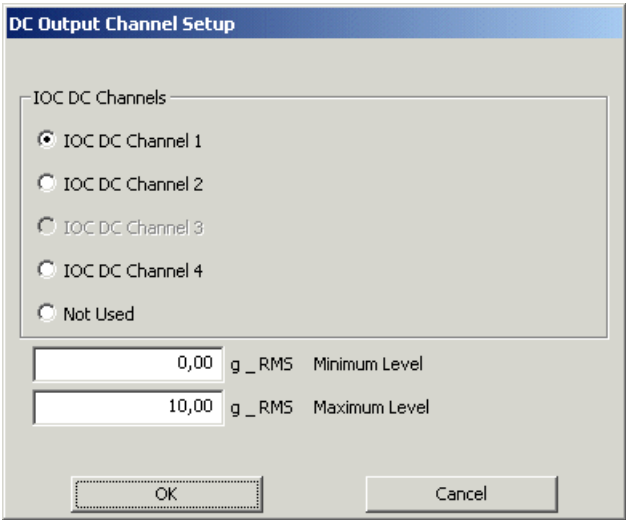

Figure 10-7: DC Output Channel Setup window
- 2- Choose a signal from the list. The DC Output Channel Setup window appears (Figure 10-7).
In the example shown in Figure 10-7, 0 to 100 mm corresponds to 0 to 10 V or to 4 to 20 mA, depending on the hardware configuration.
- 2- Select the **Not Used** button on the DC Output Channel Setup window (Figure 10-7).